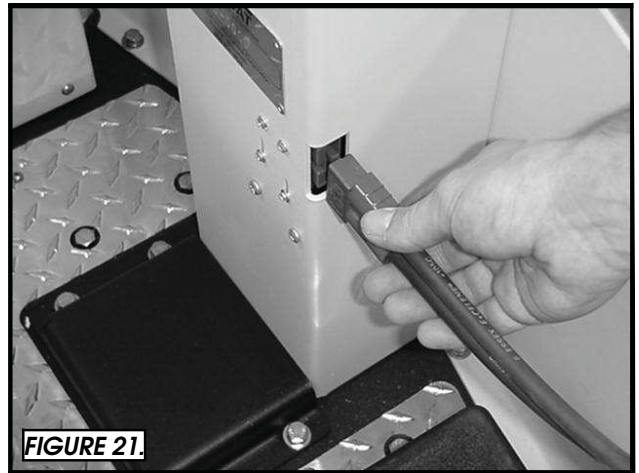

FIGURE 21.
5. WITH THE RED CHARGER PLUG DISCONNECTED FROM THE MACHINE, PLUG THE CHARGER POWER CORD INTO A GROUNDED 110 VOLT STANDARD WALL OUTLET. (SEE FIGURE 21.)